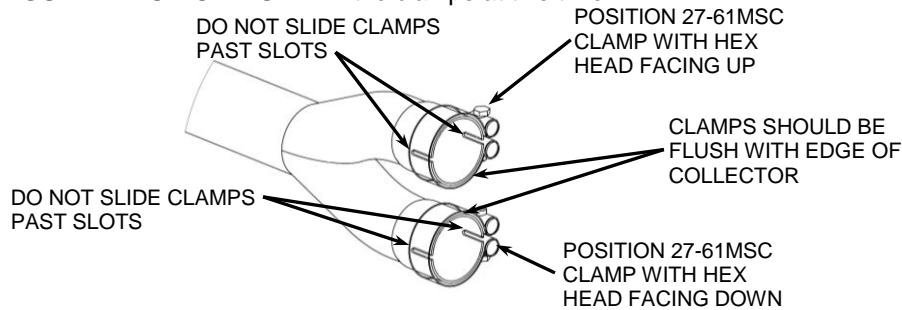

FIGURE 3
10. Position 2 of the supplied #27-61 MSC muffler clamps onto the 2 into 1 collector slip. The hex head of the top clamp should be inward and up and the hex head of the bottom clamp should be inward and down. See **FIGURE 3**. (NOTE: The clamps should be flush with the end of the collector when tightened. See **FIGURE 3**. If the clamps are slid past the slots on the collector inlet the clamps will not tighten properly).
15. When the system is straight, tighten in the following order; headpipe flanges to the cylinders (slowly tightening opposing nuts), 2 into 1 collector clamps (27-61 MSC), and finally the front headpipe support clamp. **DO NOT TIGHTEN** the muffler clamp (268-65) at this time. This clamp will be tightened after heatshield installation. (NOTE: The clamps should be flush with the end of the muffler or collector when tightened. See **FIGURE 3 & 5**. If the clamps are slid past the slots on the muffler inlet or the collector inlet the clamps will not tighten properly).